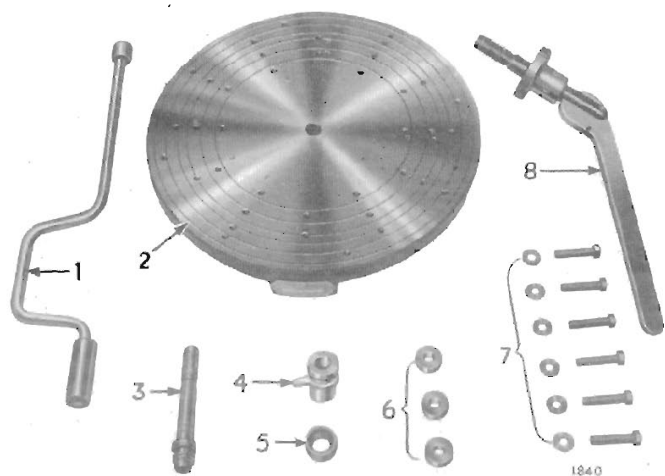

Fig. 14. Clutch assembly fixture No. 99A
**Dismantling (Fig. 14)**
Assemble the toggle levers (8), bridge pieces (10), lockplates (11) and nuts (12). Fit the gauge finger (4), Fig. 14, with adaptor No. 5 and adjust the nuts (12) until the gauge finger just contacts the ends of each lever (8), Fig. 19. Remove the gauge and stud, fit the operating lever and operate the clutch a few times. Refit the stud and gauge, re-check the lever height and adjust if necessary. When correctly adjusted, bend up the lock-plates (11) against the nuts (12). Fit the release plate (13) and secure it with the springs (9). Check the run-out of the release plate with a clock gauge as shown on Fig. 23. This must not exceed 0.015" (0.38 mm.). If satisfactory, remove the clutch from the baseplate.